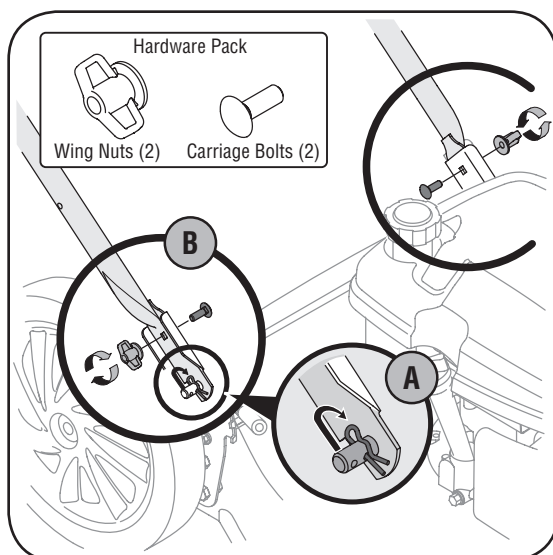

Figure 3-3: Secure lower handle to mounting brackets.
- a. Remove hairpin clip from this hole. Using a pair of pliers, insert hairpin clip into the hole on pin closest to the bracket, Figure 3-3. Repeat on other side.